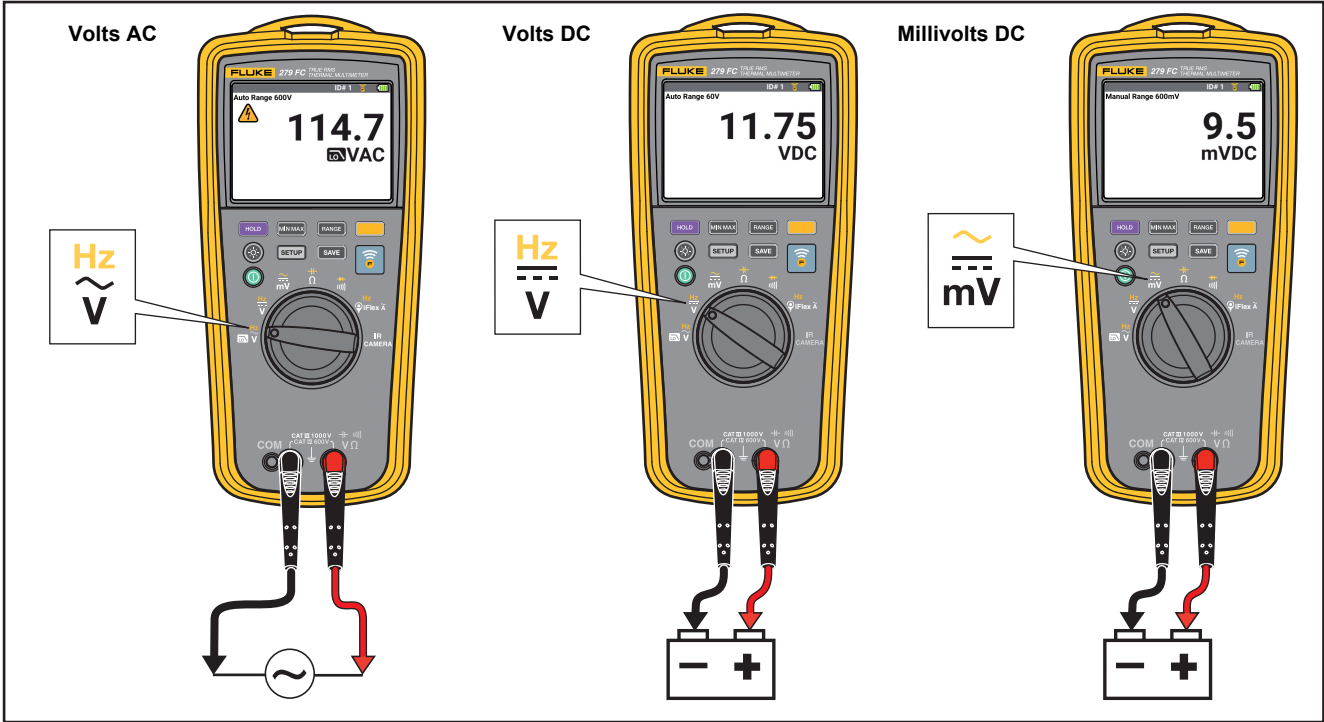

Figure 4. AC and DC Voltage Measurements
- AC and DC Voltage Measurements. See Figure 4.
1. Turn the rotary dial to \tilde{mV} . See Figure 4.